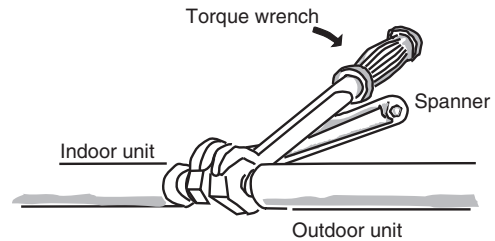

Fig. 5-6
- (2) To fasten the flare nuts, apply specified torque.
- When removing the flare nuts from the tubing connections, or when tightening them after connecting the tubing, be sure to use 2 adjustable wrenches or spanners. (Fig. 5-6) If the flare nuts are over-tightened, the flare may be damaged, which could result in refrigerant leakage and cause injury or asphyxiation to room occupants.